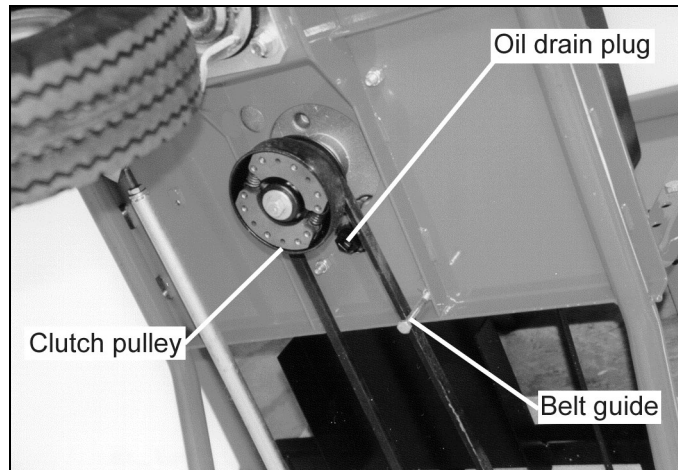

Figure 10
1. Remove the oil drain plug from the bottom of the engine (*Figure 10*) and drain the oil.
6. Remove the belt from the clutch pulley under the engine (*Figure 10*).
7. Install the new belt on the clutch pulley first, then the transmission pulley and then the idler pulley. Make sure the new belt is **INSIDE** the belt guide near the clutch pulley (*Figure 10*).